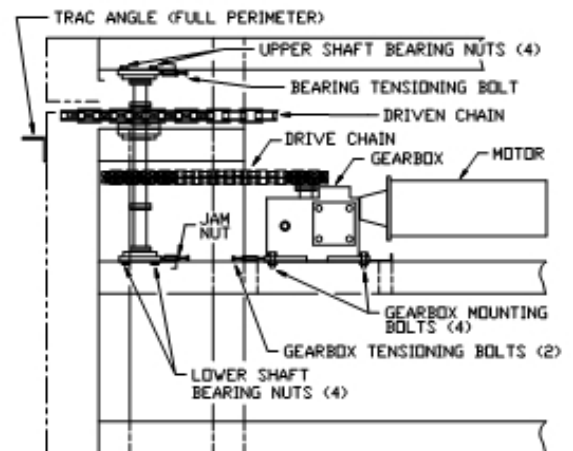

fig. 1
- B. Interim tension can be maintained without removing any offset links. To do this, move the shafts outward as follows: [Refer to fig. 1]